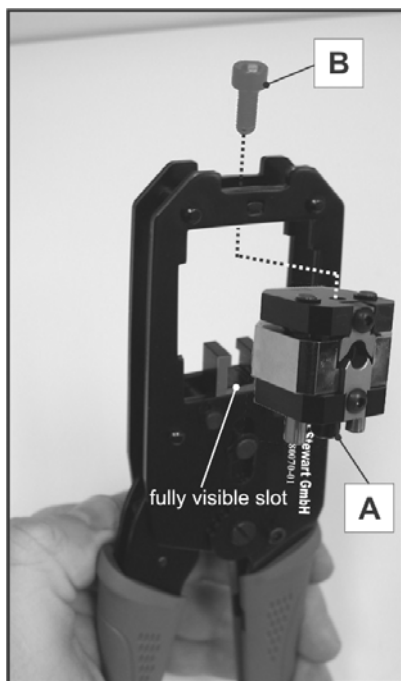

Fig.1.
- ❑ In order to place the dies-set in the toolframe, close the handles just as enough as to make the slot on pusher fully visible (do not close it fully) (Fig.1).